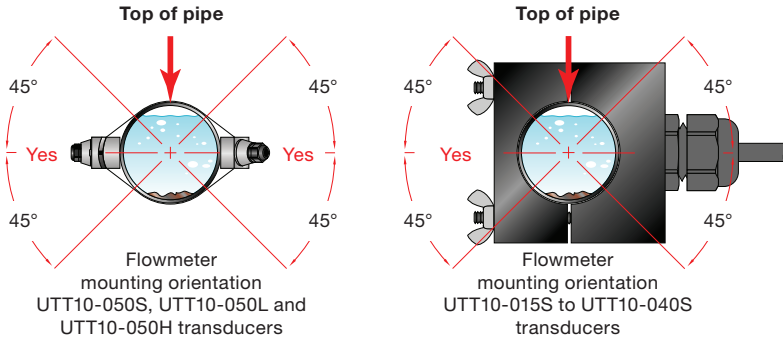

Fig. 19 Transducer orientation – Horizontal pipes
- 3) Crease the paper at the fold line. Mark the crease. Place a mark on the pipe where one of the transducers will be located. See *Fig. 19* for acceptable radial orientations. Wrap the template back around the pipe, placing the beginning of the paper and one corner in the location of the mark. Move to the other side of the pipe and mark the pipe at the ends of the crease. Measure from the end of the crease (directly across the pipe from the first transducer location) the dimension derived in "Step 2 - Transducer spacing" on page 19. Mark this location on the pipe.